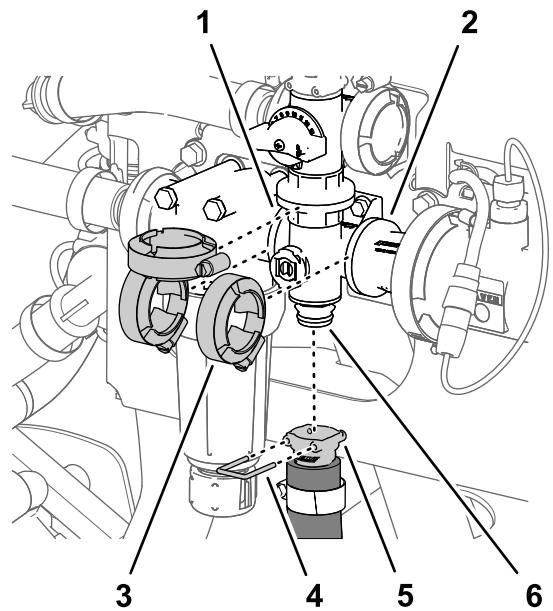
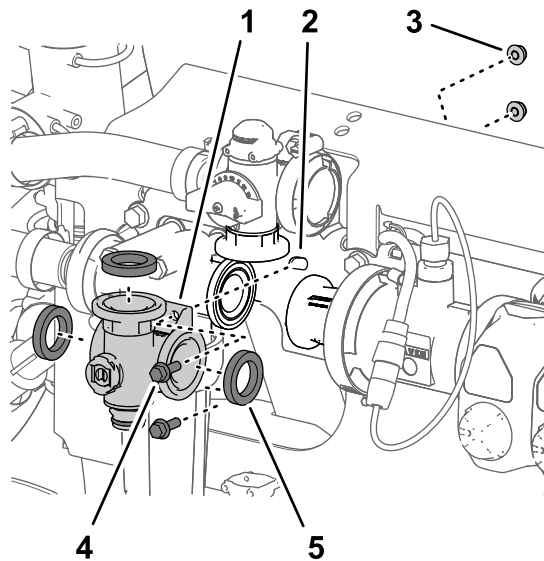

Figure 127
Figure 126
1. Align the flange of the agitation-valve manifold and 3 gaskets with the flanges of the agitation-bypass valve, pressure filter head, and coupling adapter (Figure 126 and Figure 127).
2. Loosely secure the agitation-valve manifold to the agitation-bypass valve, pressure filter head, and coupling adapter (Figure 127) with the 3 flange clamps that you removed in Removing the Agitation-Manifold Valve \(page 81\).
5. Tighten the 3 flange clamps by hand (Figure 127).
6. Assemble the quick-connect coupler of the agitation hose onto the quick-connect fitting of the agitation-valve manifold with the quick-connect pin (Figure 127).